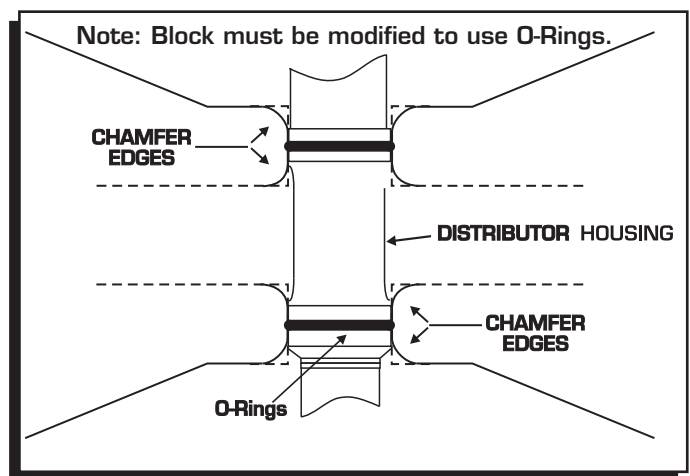

Figure 9 Modified Block for use with O-Rings.
7. Install the gasket and apply a liberal amount of the supplied lubricant to the distributor gear (The supplied O-rings can **only** be used if the block has been modified as shown in Figure 9).